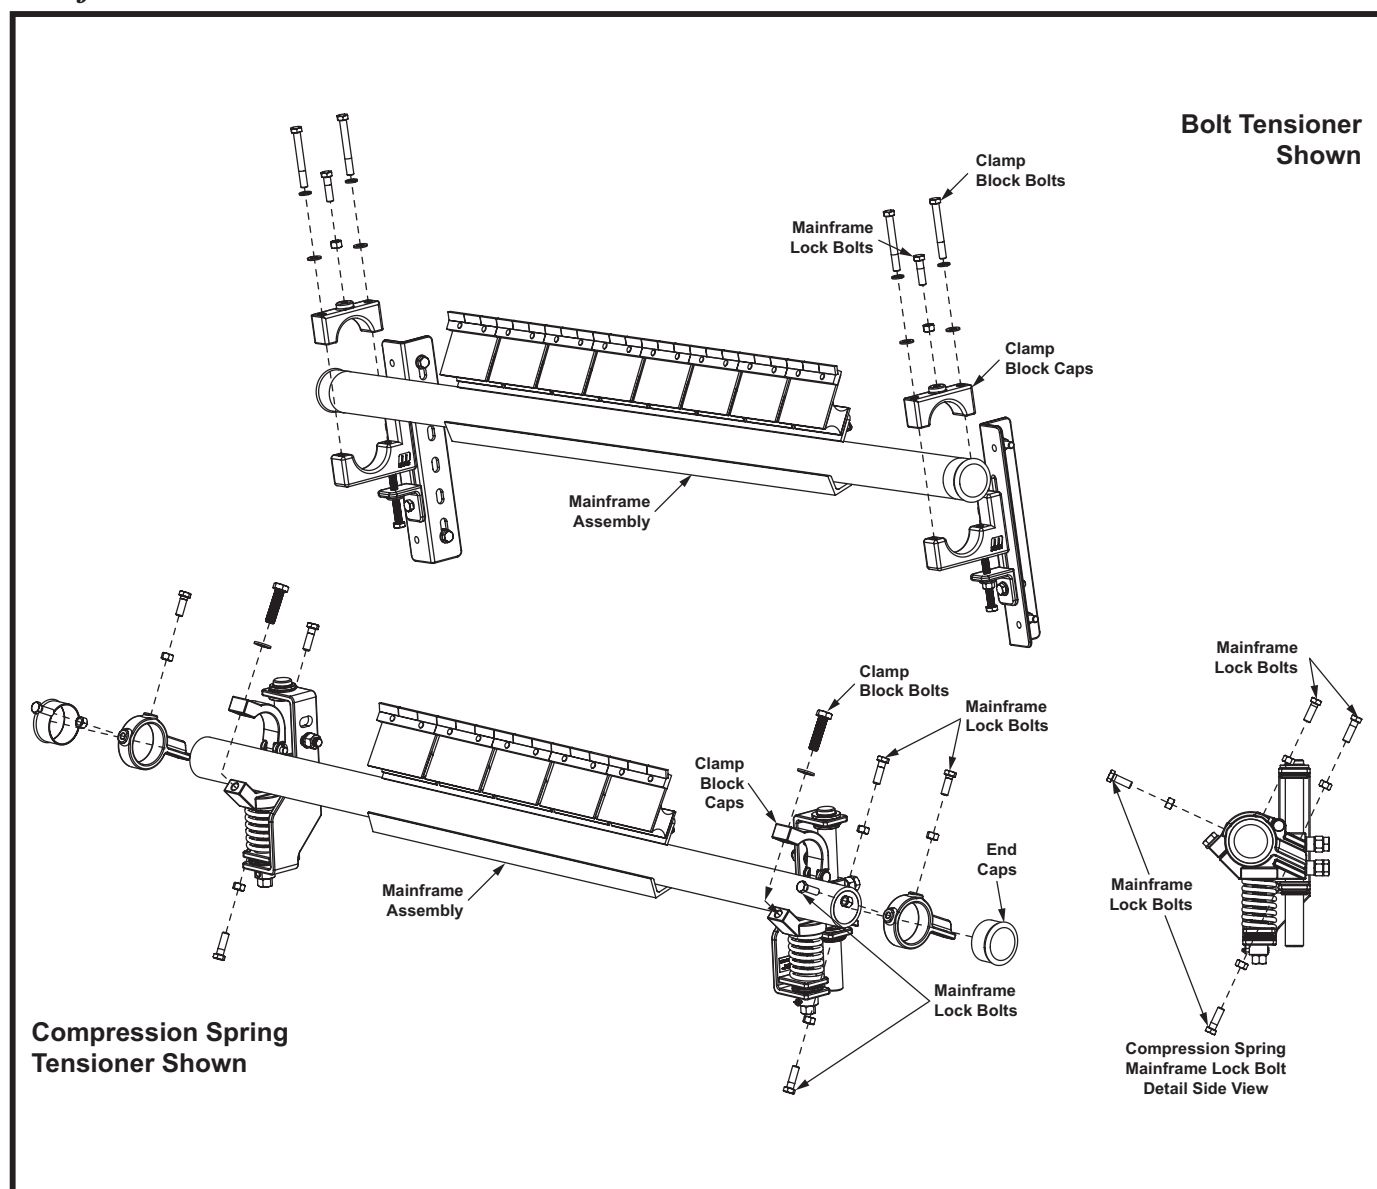

Figure 38. Martin® P2 Secondary Belt Cleaner HD Reinstalling Mainframe
8. Install the mainframe back into position on the tensioners. Re-install clamp block caps and bolts (Refer to Figure 38.)